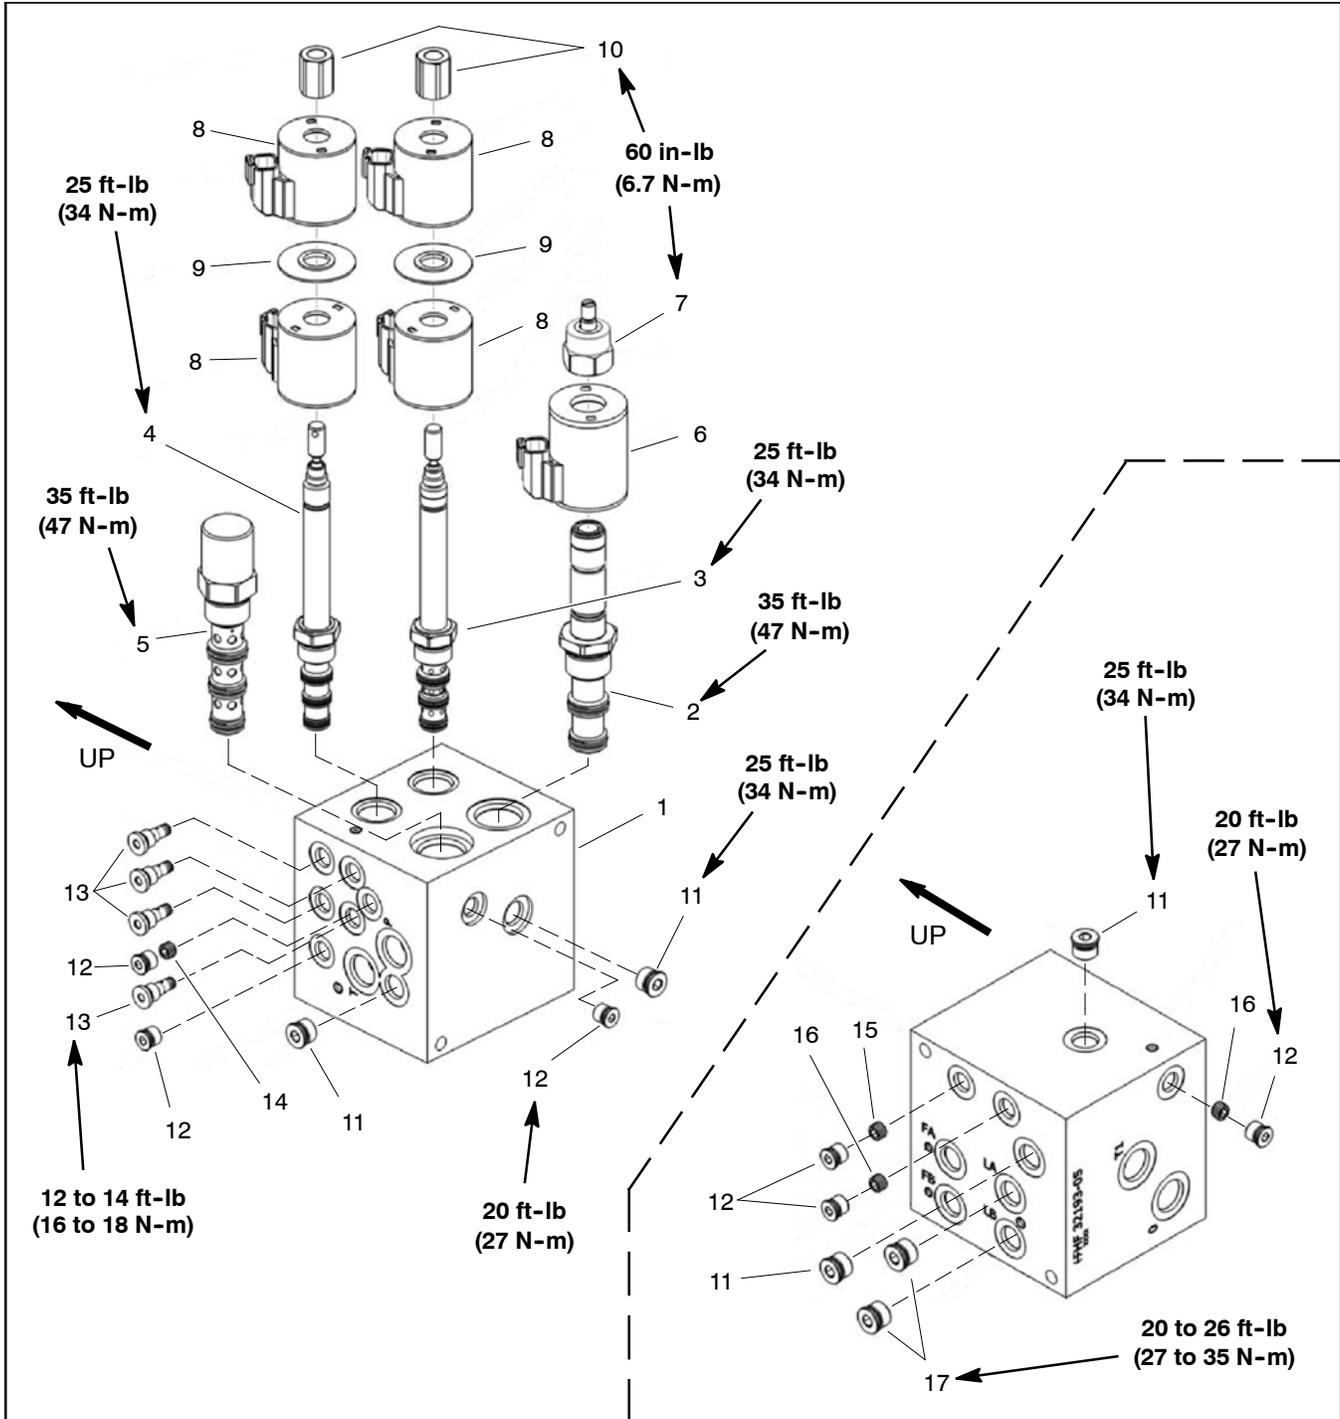

Figure 36
NOTE: The hydraulic manifold shown in Figure 36 uses several zero leak plugs. These plugs have a tapered sealing surface on the plug head that is designed to resist vibration induced plug loosening. The zero leak plugs also have an O-ring to provide a secondary seal. If zero leak plug removal is necessary, lightly rap the plug head using a punch and hammer before using an allen wrench to remove the plug; the impact will allow plug removal with less chance of damage to the socket head of the plug. When installing plugs into the manifold, torque plugs to the values identified in Figure 36.
D. Torque cartridge valve using a deep socket wrench to value identified in Figure 36.